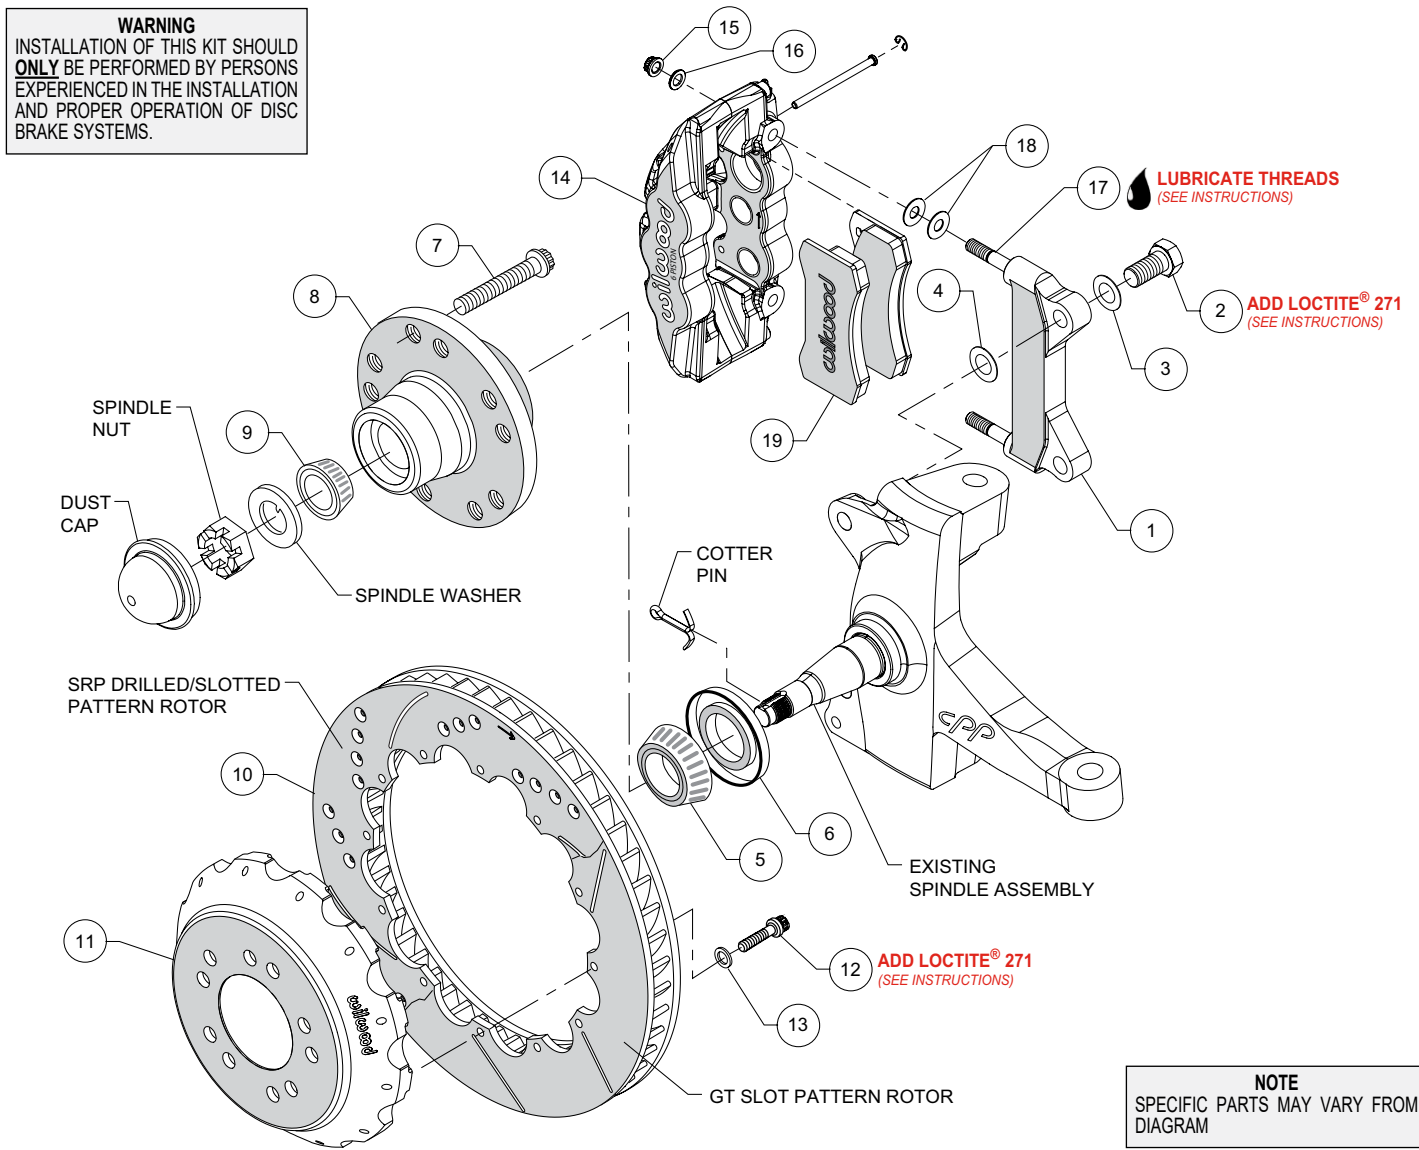
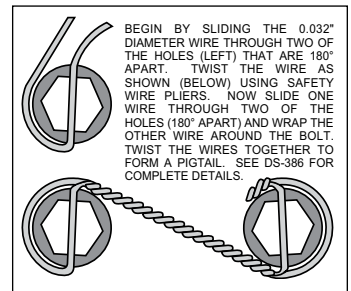

Figure 1. Typical Installation Configuration
Figure 3. Safety Wire Diagram
NOTE: Numbers in parenthesis refer to the parts list and Figure 1 on the preceding pages.
- The caliper mount bracket (1) should initially be installed with clean, dry threads on the mounting bolts. Orient the bracket, as shown in Figure 1, and Photo 1, and install using bolt (2) and washer (3). Initially place one .024" thick shim (4) on each bolt between the bracket and upright, Figure 1. Temporarily tighten the mounting bolts. **NOTE:** The bracket must fit squarely against the mount bosses on the upright. Inspect for interference from casting irregularities, machining ridges, burrs, etc. Later, after the caliper alignment has been checked, the mount bolts will be secured using red *Loctite*® 271.
- Install the grease seal (6) by pressing into the backside of the hub (8), flush with the end of the hub, Photo 4.
- Orient the rotor (10) and the hat (11) as shown in Figure 1 and Photo 5. Attach rotor to hat using bolts (12) and washers (13). Apply red *Loctite*® 271 to the bolt threads and torque to 155 in-lb using a criss-cross pattern. For an added measure of security, the bolts may be safety wired using standard 0.032 inch diameter stainless steel safety wire as shown in Figure 3. Refer to Wilwood's data sheet DS-386 (available at www.wilwood.com/Pdf/DataSheets/ds386.pdf) for complete safety wire installation instructions.
- Pack the small outer bearing cone (9) with high temperature disc brake bearing grease and install into hub (8). Slide the hub assembly onto the spindle. Secure using spindle washer and spindle nut, Photo 6. Adjust bearings per OEM specifications. Install a new cotter pin.
- Press the dust cap into the hub (8).
- Slide the hat/rotor assembly (10/11) onto the hub (8). **NOTE:** The hat must fit flush against the hub face or excessive rotor run out may result.
- NOTE:** This kit contains distinct right and left hand calipers that must be mounted in a specific direction, as described below. Lubricate the caliper mounting studs (17) with lightweight oil. Initially place two .030" thick shims (18) on each stud as shown in Figure 1 and Photo 7. Mount the caliper (14) onto the bracket (1) using lock nuts (15) and washers (16), Figure 1. Ensure that the caliper is mounted so that the largest pistons are at the rotor
- Remove the two pad retaining pins from the caliper (14) by carefully popping out the pin retaining clips and sliding out the pins. Insert the brake pads (19) into the caliper from the bottom, Figure 1 and Photo 9. With the friction material facing the rotor, secure the brake pads in place with the pad retaining pins and clips, Photo 10. Reinstall the caliper onto the caliper mounting bracket and temporarily tighten the lock nuts. Check that the top of the brake pad is flush with the outside diameter of the rotor, Photo 11. If not, adjust by adding or subtracting shims (18) between the caliper and the bracket. After the caliper pad height is set, torque the caliper lock nuts (15) to 47 ft-lb.